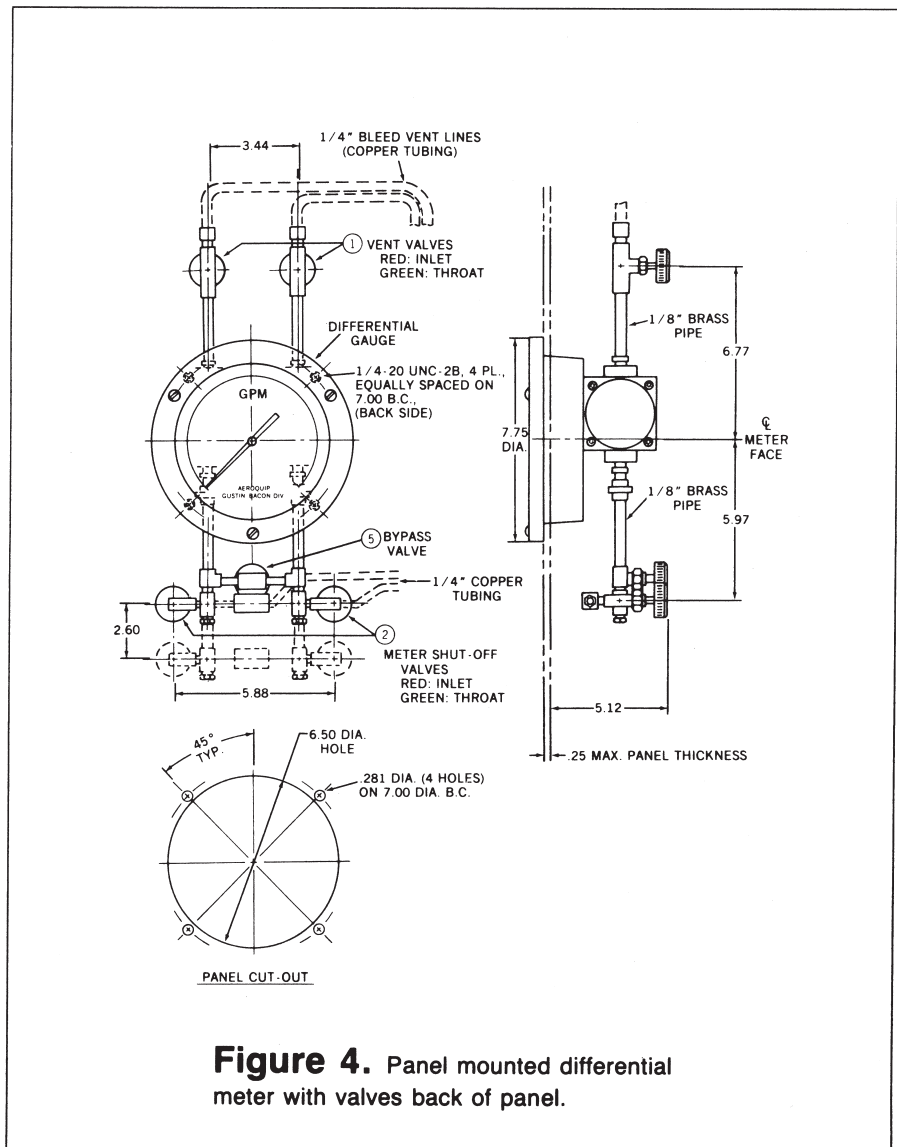
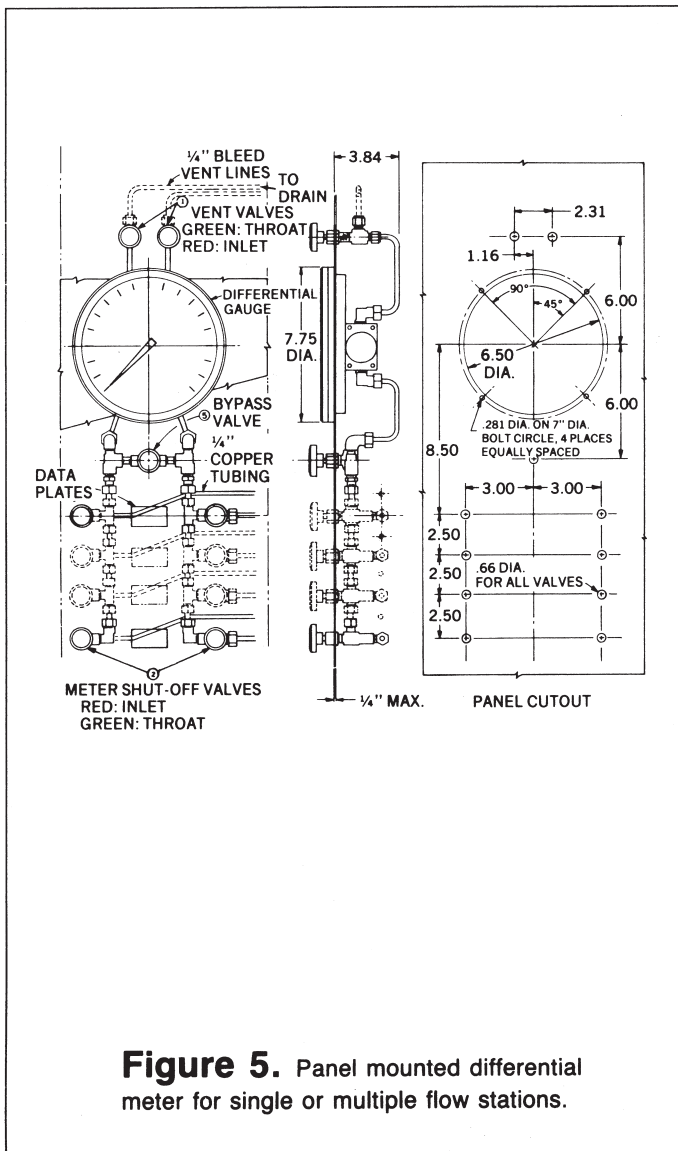
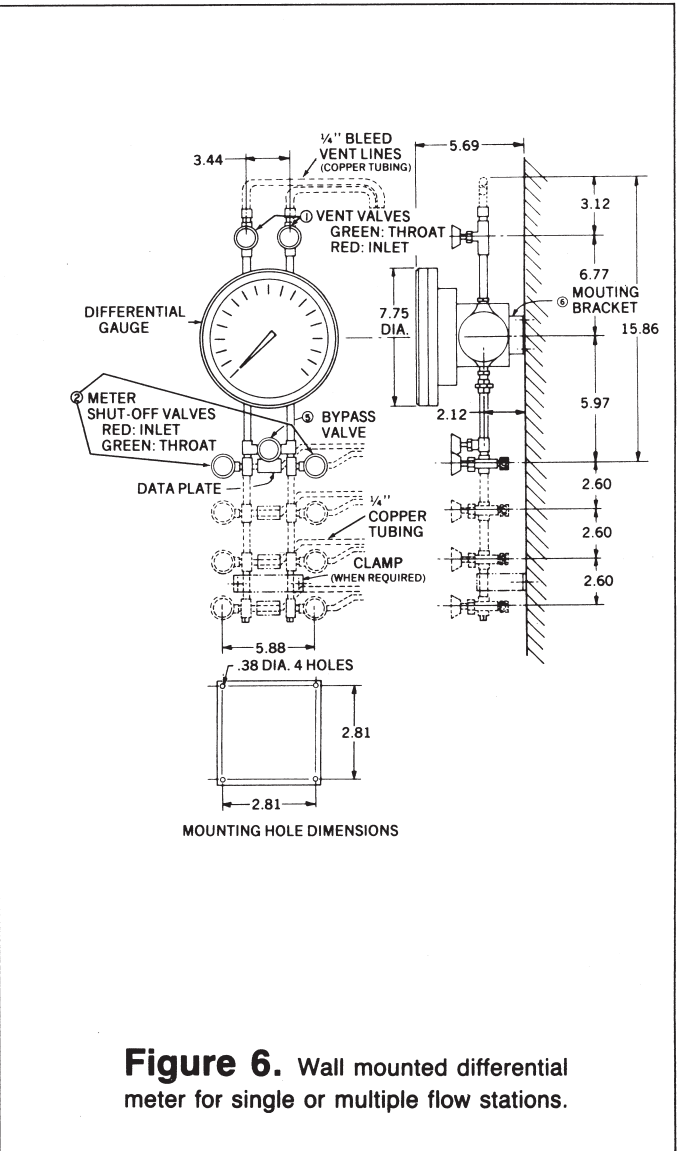

Figure 4. Panel mounted differential meter with valves back of panel.
Figure 5. Panel mounted differential meter for single or multiple flow stations.
Figure 6. Wall mounted differential meter for single or multiple flow stations.
Barco offers panel and wall mounted meters in single or multi-station configurations. Figure 4 shows the single station panel mounted meter; Figure 5 shows the multi-station panel mounted meter and; Figure 6 shows the wall mounted meter. These meters are offered as standard in a one (1) venturi station configuration. Additional stations are supplied upon request (multi-station shown as dotted lines in Figures 5 and 6).
Panel or wall mounted meters (refer to figure 4, 5 or 6).